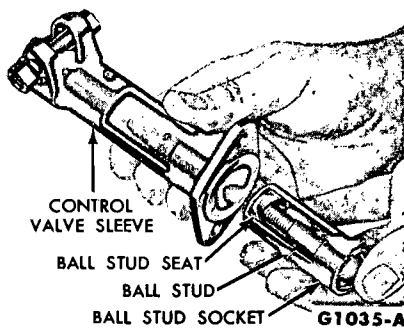

FIG. 13—Installing Ball Socket, Seal and Bracket
4. Place the socket in the control valve sleeve so that the threaded end of the ball stud can be pulled out through the slot in the sleeve (Fig. 13).